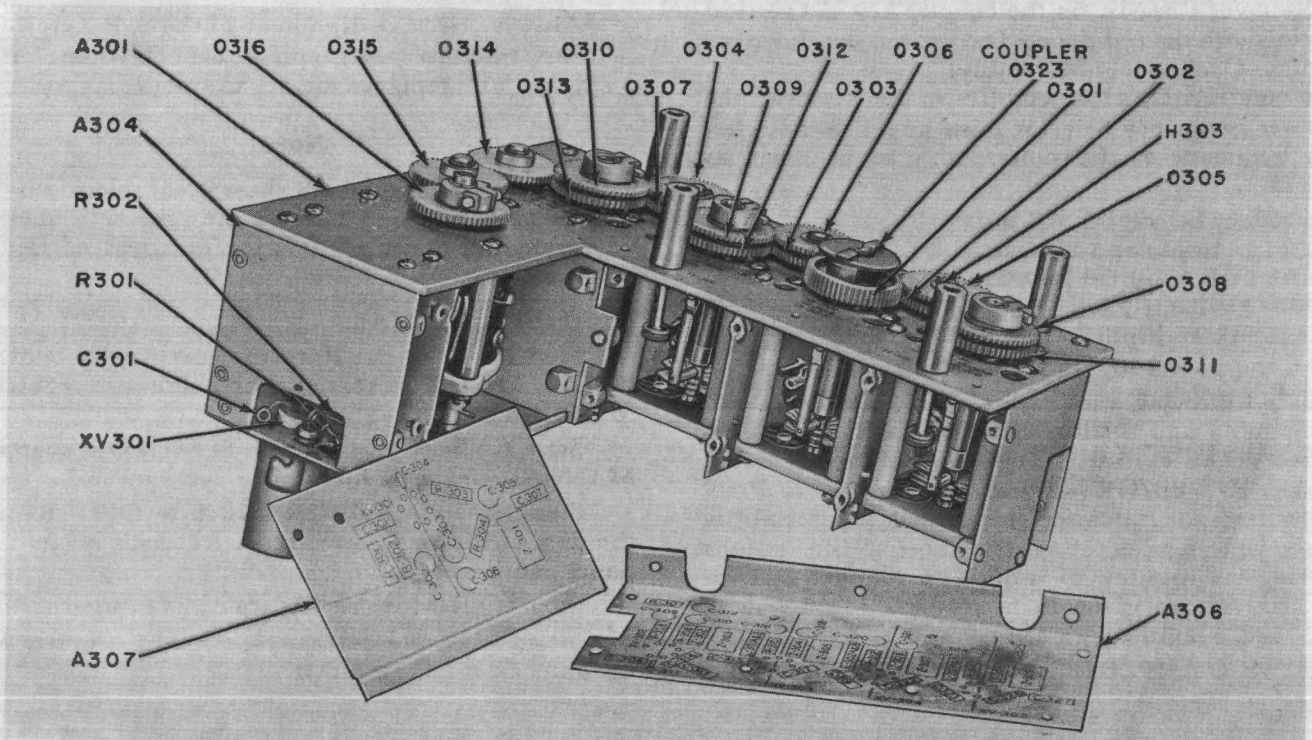
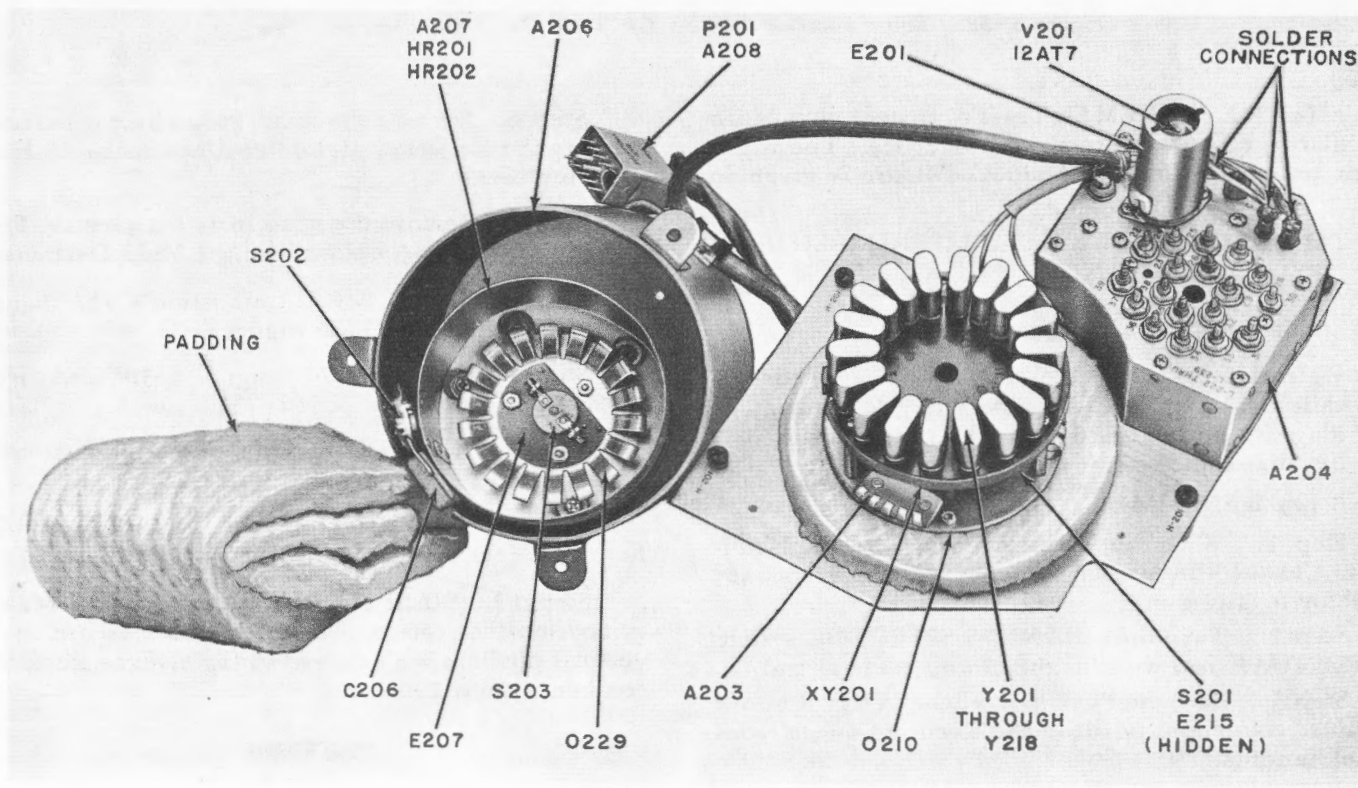

Figure 6-30. Radio Receiver R-278B/GR, Frequency Multiplier-Amplifier, Bottom View
Figure 6-31. Radio Receiver R-278B/GR, Main Oscillator, Top View
Figures 6-31 through 6-33 show component callouts. Figure 6-82 shows the schematic diagram and figure 6-91 is the practical wiring diagram.
Step 7. Unsolder C301 (figure 6-30) and three wires from solder connections (figure 6-31).
Step 1. Set S201 (figure 6-31) in the closed position for crystal number 18 (220.0-mc position).
Step 9. Unsolder C301 (figure 6-30) and three wires from solder connections (figure 6-31).
Step 1. With *red dot up*, set the key of the coupler (figure 6-30) in the vertical position.
Step 1. With the Frequency Multiplier-Amplifier removed from the Receiver, remove the gears by releasing clamps and removing truarcs (figure 6-30).
Step 4. Mechanically align the r-f tuner by positioning the inductance bars of each tuner to line up with the ring eyelet (220.0-mc position, figure 6-30).